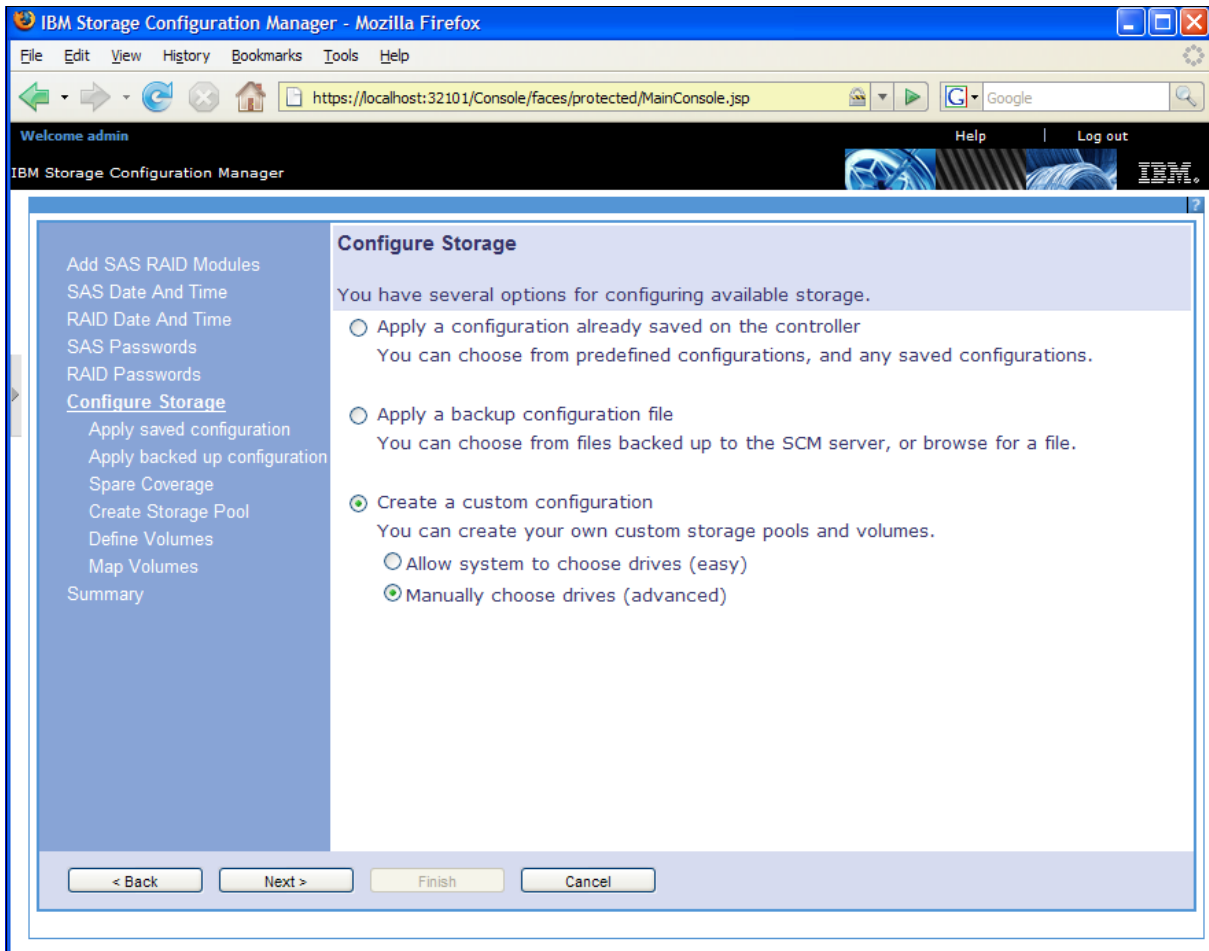

Figure 2-38 Configure Storage window
8. Configure storage for blade servers. The “Configure Storage” panel (Figure 2-38) provides a number of selections, as follows: